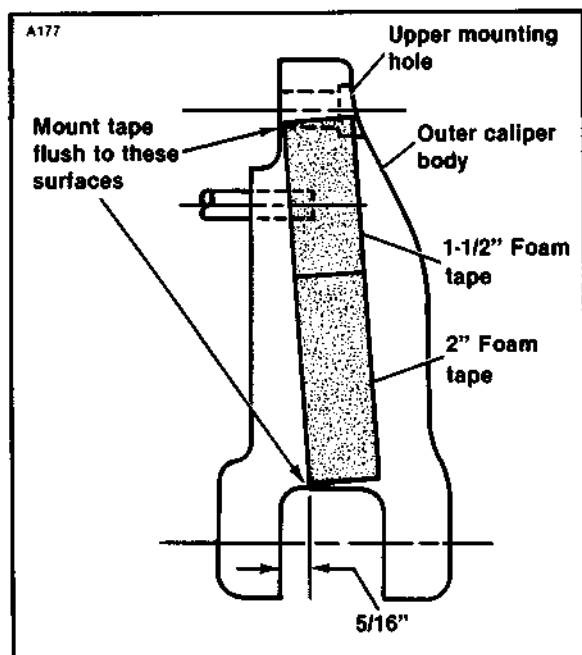

Figure 1. Foam Tape Installation — FLT Front Caliper
3. Remove the paper backing from the foam tape and apply both the 2 in. and 1 1/2 in. pieces to the front of the outer caliper half as shown in Figure 1. Do not remove the protective Mylar from the foam.